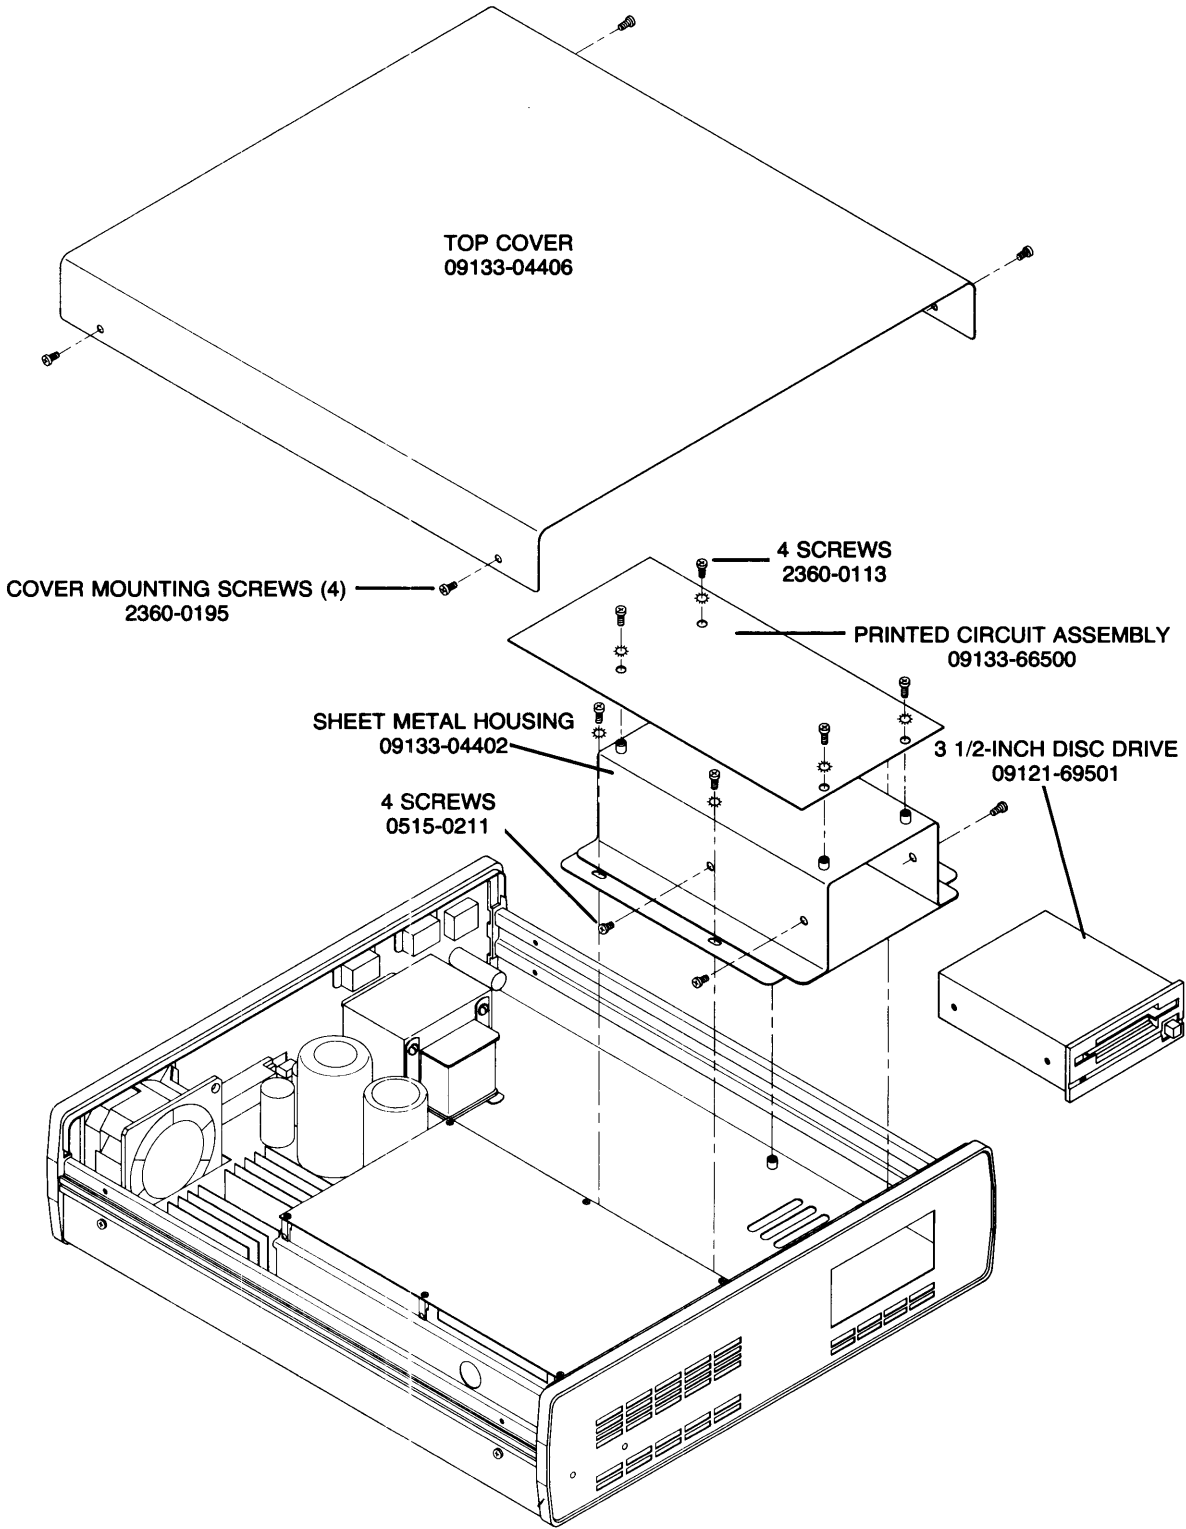

Figure 5-1. HP 9133 Disc Memory Exploded View
- Remove the four cover mounting screws shown in Figure 5-1